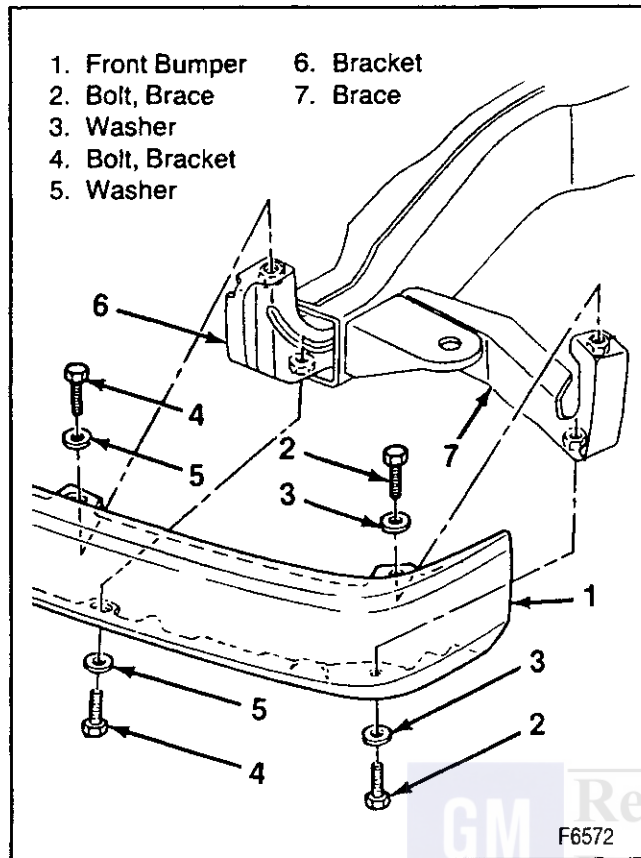

Figure 4—Front Bumper
↔ Install or Connect (Figures 4 and 5)
↔ Remove or Disconnect (Figures 4 and 5)
1. Bumper to brace bolts and washers (figure 4).